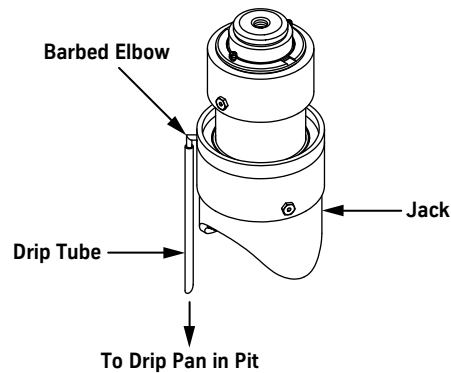

Figure 45 - Drip Tube Installation (Two Stage Shown)
1. Install the drip tube on the barbed elbow (located on the packing head), and run the tube to a drip pan in the pit. See Figure 45.